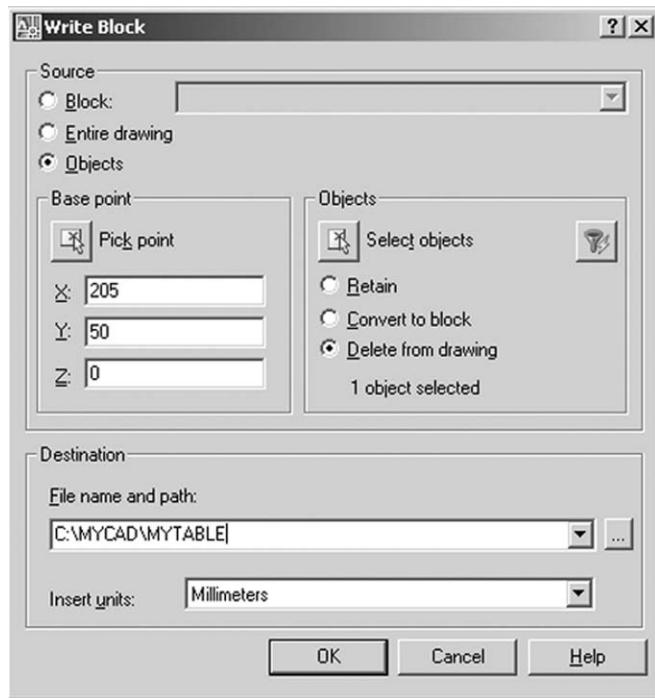

Figure 29.2 The Write Block dialogue box for the created table.
2. Insert units: Millimeters – Figure 29.2